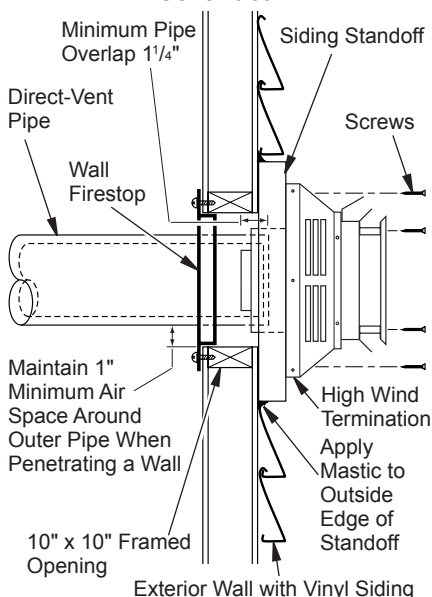

Figure 13 - Typical Horizontal Termination Cap Mounting with Additional Siding Standoff Installed
8. Carefully move fireplace, with vent assembly attached, toward wall and insert vent pipe into horizontal termination. The pipe overlap should be a minimum of 1 ¹/₄" (see Figure 13, page 11).
9. **Combustible Exterior Wall Only:** Slide wall firestop against interior wall surface and attach with screws provided. See Figure 13, page 11, for horizontal termination details.